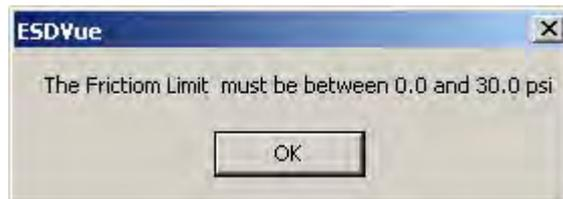

Figure 252 Friction Low Limit Error Message
*Friction Low Limit* is the minimum amount of pressure provided during the PST to overcome valve packing friction. Configure this parameter in pressure units in a range between 0.0 to 30.0 psi (0.0 to 207 kPa, 0.000 to 2.069 bar). If you configure a value outside the specified range an error message appears (Figure 252).